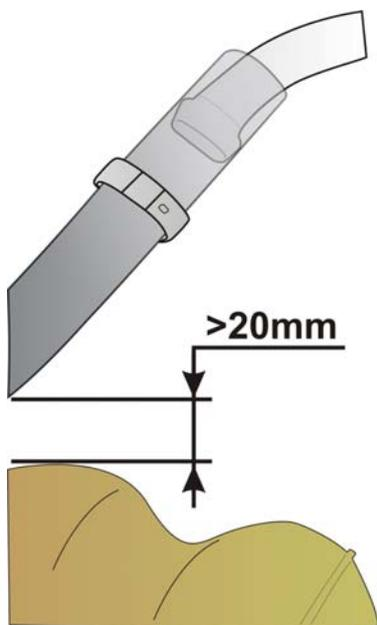

Fig. 9
- Fasten the spring clamp that was previously removed (**O-Fig. 9**).